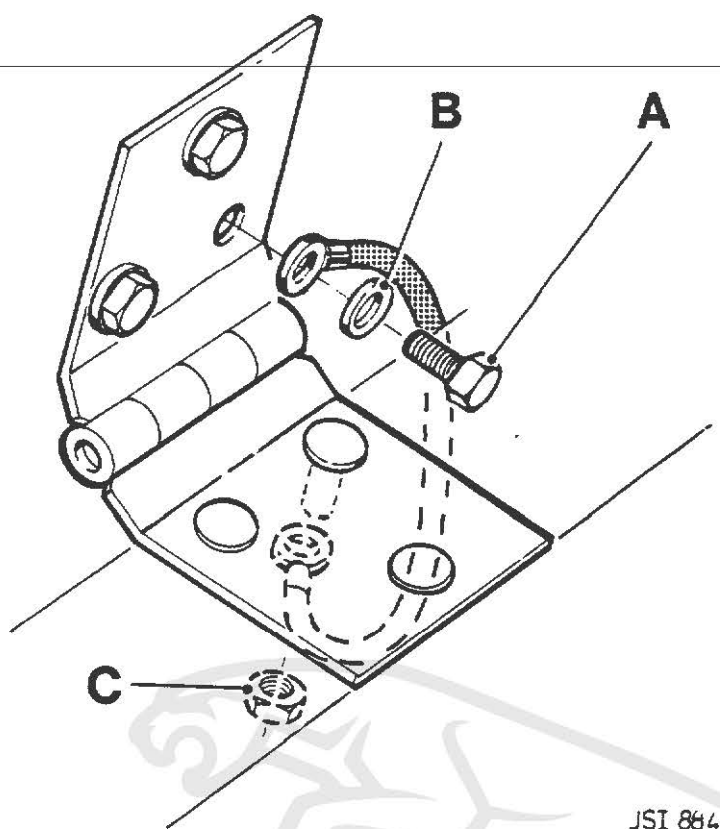

Fig 1.
- 2 Release and remove the LH bonnet hinge lower bolt and discard (Fig 1 A).
- 4 Position the earth lead and secure using a new bolt Part No. SH 108201J and washer Part No. FW 105E (Fig 1 [A & B]).
- 6 Release and remove the fixing nut from the lower hinge bracket (Fig 1 C)
- 8 Route the earth lead to the lower stud as shown (Fig 1) and secure using a new fixing nut Part No. FN 108041J (Fig 1 C).